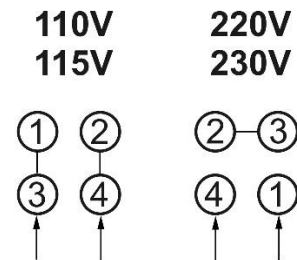

Figure 7-2: main motor wiring
- 1) Open main motor junction box cover, and change leads based on wiring diagram inside cover. This diagram is also shown in Figure 7-2. (NOTE: In case of discrepancy, diagram inside junction box cover takes precedence.) Reinstall cover.